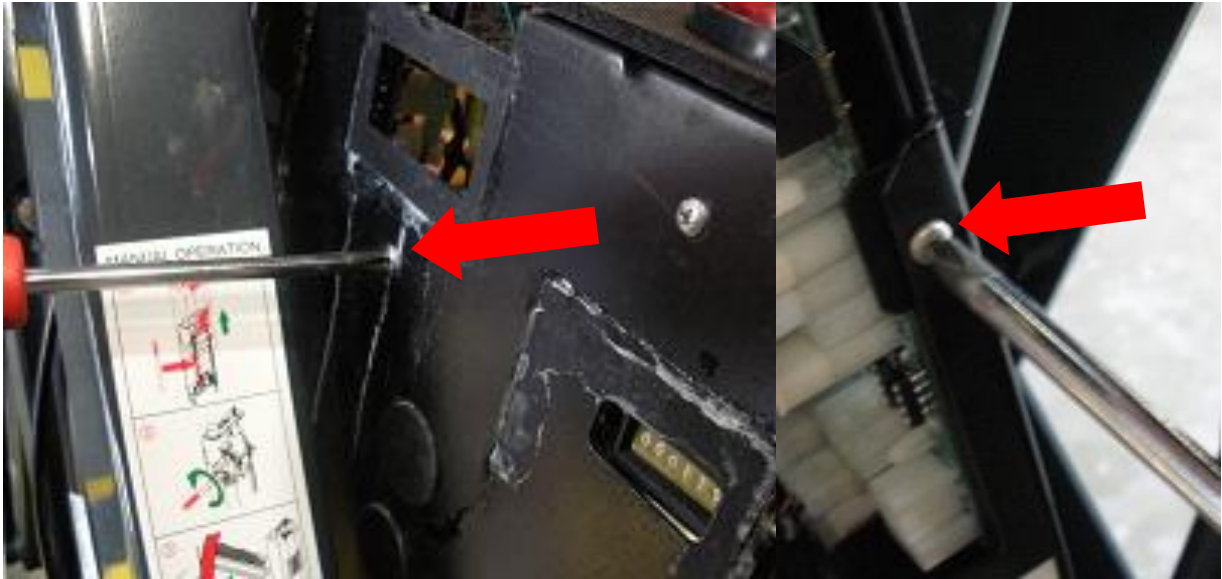

Figure 3. Remove PCB Assembly Bracket Screws
6. Refer to **Figure 3**. Use a Phillip screw driver and remove two PCB assembly bracket screws. One located on the backside of pump chassis and the second screw is located on the side of pump chassis. Retain screws for installation.